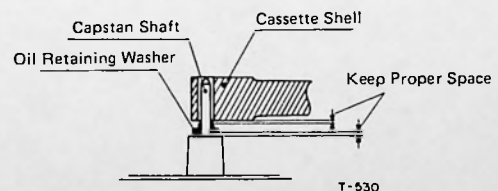

Fig. 5-14 Oil Retaining Washer Clearance Check
2. Make certain that both surfaces of the Oil Retaining Washer are properly spaced from one side of the Cassette Shell and the top end of the Capstan Housing by rotating the Flywheel manually. See Fig. 5-14.